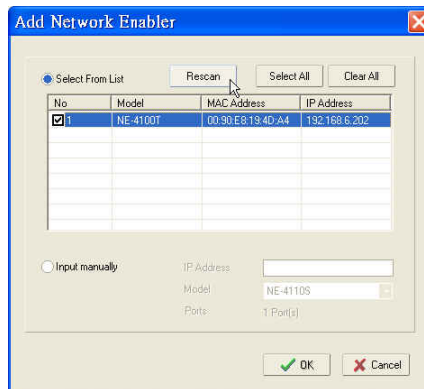

Figure A-4 Search available 64-Logger network interface
- Click **Rescan** on Add Target window to search available 64-Logger network interface. Please be aware that the founded one will be appeared in NE-4100T and its IP address will be attached as Figure A-4 shown, click **OK** to quit from the window.